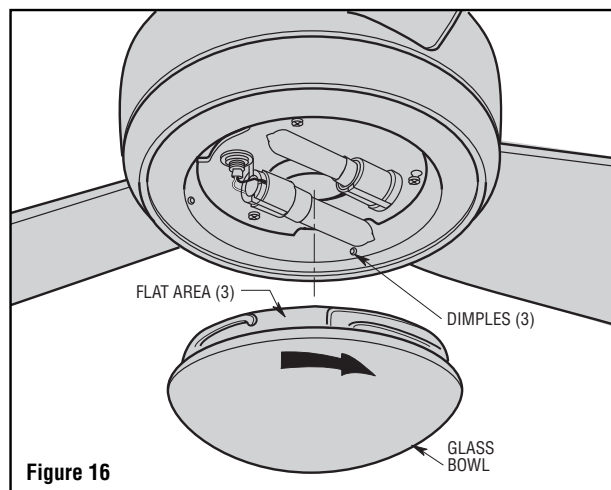

Figure 16
2. Place the glass shade into the opening in the fan motor housing assembly, aligning the three flat areas on the top edge of the glass with the three raised dimples on the fan motor housing assembly and turn the glass shade clockwise until it stops (Figure 16).